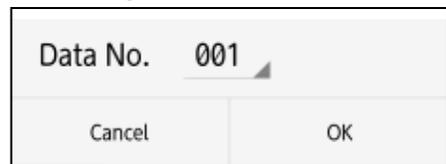

Figure 4-62 Data No. setup screen
- (1) Tap **[Data number setting]** menu. Then Data No. screen (Figure 4-62) appears and shows the current setting.
- (2) Tap the current setting (001 in Figure 4-62), then the list of available data numbers appears.
- (3) Scroll the list and tap the desired number.
- (4) Confirm the desired channel is shown as the current setting in the Data No. screen.
- (5) Tap **[OK]** to return to the file operation screen. To cancel the setting change, tap **[Cancel]**, then the screen returns to the file operation screen without setting change.
- (6) Tap **[Return to the main window]** to return to the main screen.